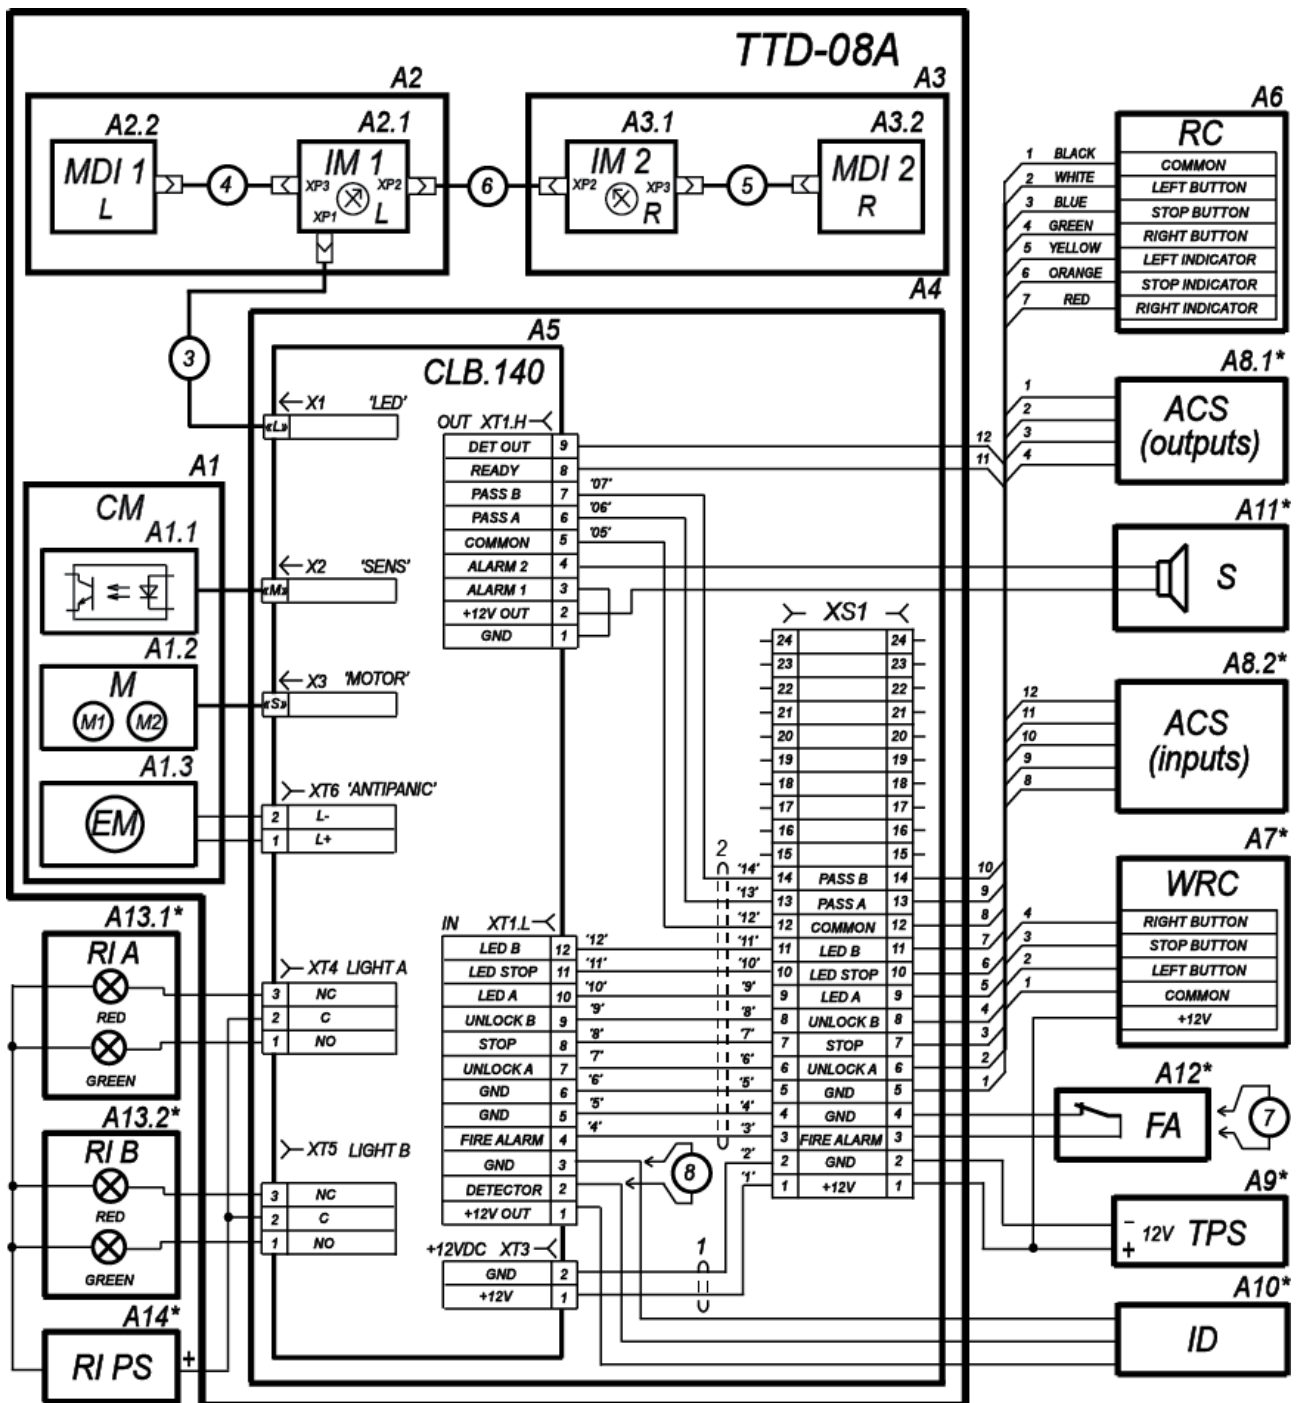
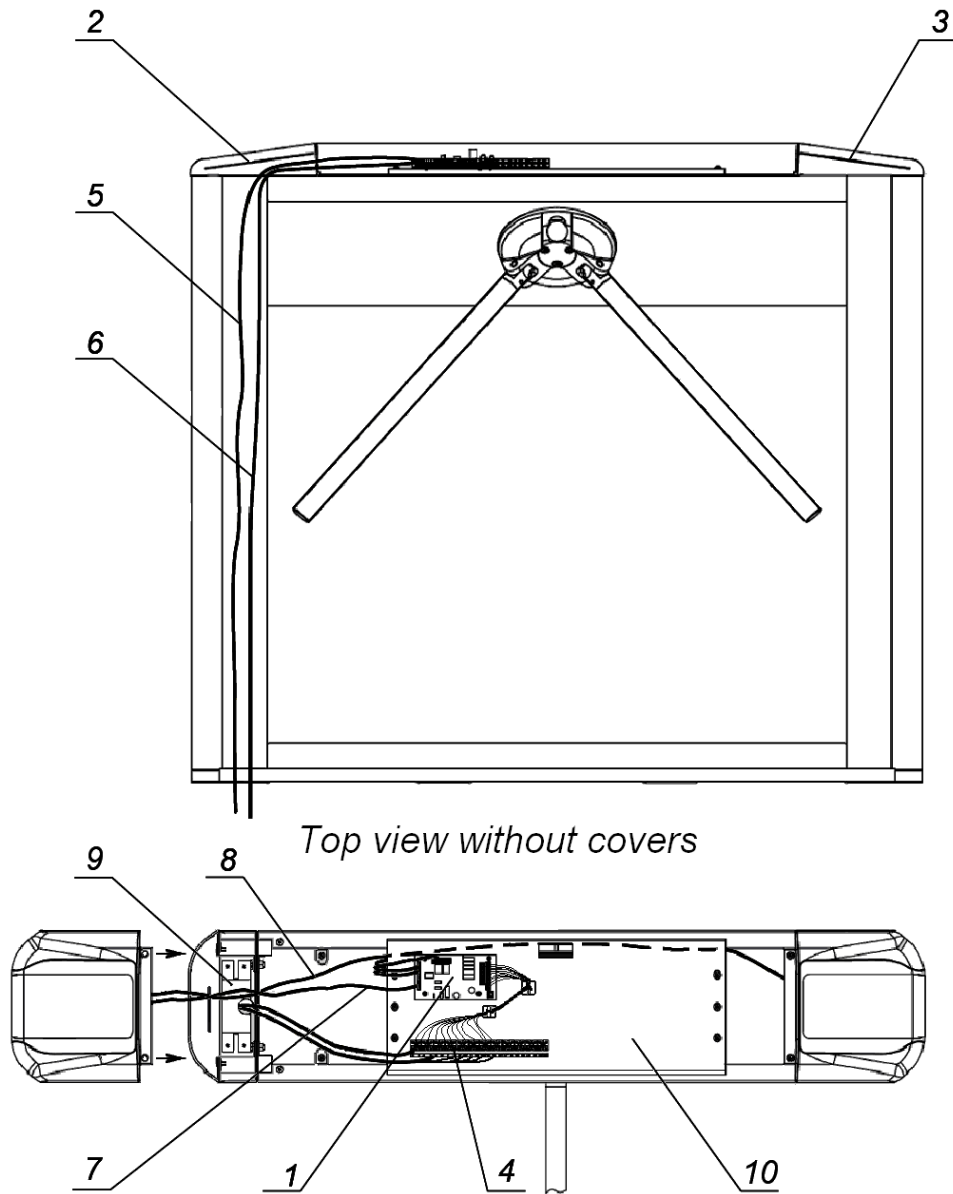
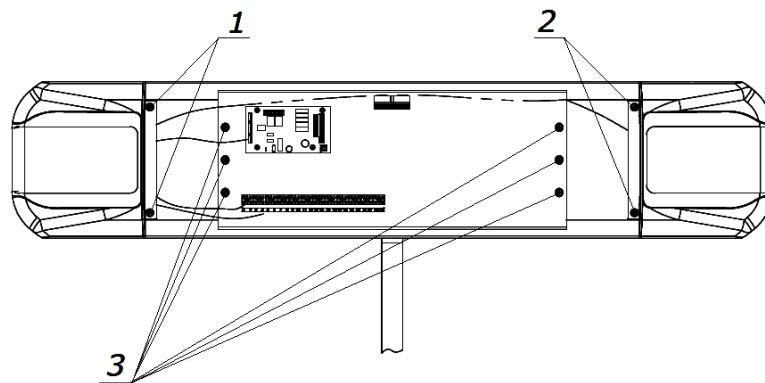

Figure 12 – Connection layout of the TTD-08A turnstile and optional equipment ¹
Figure 13 – Cable layout inside the housing
Figure 15 – Layout of bracket cap-screws
5 – power cable; 6 – cable from the RC panel (WRC device); 7 – indication cable (3 on Fig. 13);
8 – intermediate indication cable from IM1 to IM2 (6 on Fig. 13); 9 – bracket for reader installation;
4. If you lay the cables under the floor surface, prepare the electric raceway to the cables laying zone of the turnstile housing. The cables layout inside the turnstile housing is shown in Fig. 12.
6. Remove the turnstile housing top cover (3) (Ref. Section 6).
7. Remove the turnstile housing side cover (7), assembled with a top cover (9). For this purpose:
- Loosen two screws (2 in Fig. 15).
- Remove the wall from the housing and disconnect the cable, connecting indication plates (8 on Fig. 12) from indication plate 2, located under the cover.
8. Remove the turnstile housing side cover (6), assembled with a top cover (8). In order to do that:
- Loosen two screws (1 in Fig. 15).
- Take a side cover aside and detach a cable (8 in Fig. 12), connecting indication blocks, from indication block IM1 (located under a top cover), and an indication cable (7 in Fig. 12), from control block.
10. Connect the power cable (13) to a connector block **XS1** (Ref. Fig. 13).
11. Connect the cable of the RC panel (12) to a connector block **XS1**.
13. If needed, install the board of outer controller ACS inside the turnstile housing on the bracket (10 in Fig. 12); to do this, use clips with self adhesive foundations FSS-5 from the delivery set.
14. If needed, install card readers on, specially provided for it, brackets on the housing flanks (9 in Fig. 12). To ease the installation procedure, remove the bracket by loosening two nuts M3 with an open end wrench S5,5, located below under the bracket. To connect card readers, use free contacts (15 - 24) of the remote connector block **XS1**.
2. Remove the turnstile top cover (3) from the turnstile housing as described in Section 6. Lay the cover on a flat steady surface.
3. To access the rotation unit of turnstile barrier arms, take off the bracket with control board and remote connector block. For this purpose: unscrew 6 screws (3 on Fig. 15), which fix the bracket on the turnstile housing and accurately take a bracket aside without damaging connected cables.